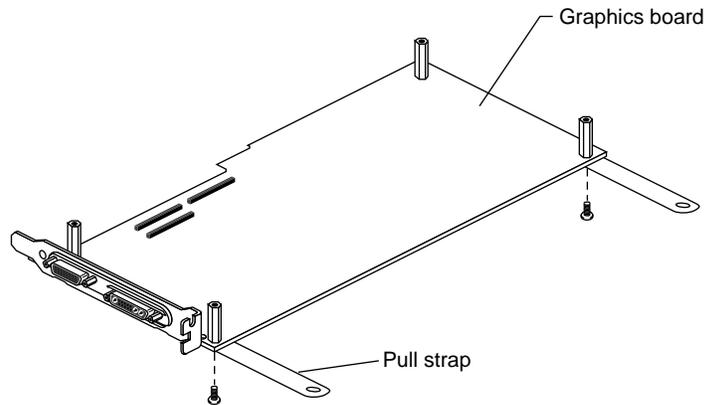

Figure 1-15 Inserting the Screws and Attaching the Standoffs
10. Insert the screws through the bottom of the board and pull straps. See Figure 1-15.